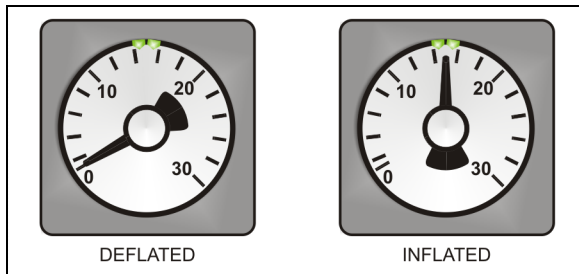

FIGURE 14: INFLATABLE SEAL PRESSURE GAGE
- Finally, the inflatable seal can be re-inflated by turning the shut-off valve handle counterclockwise. Check the pressure gage on the inflatable seal regulator to see if the pressure increases to 15 psi  $\pm$  5 psi (Figure 14). Needle should be pointing between the two small green marks on the dial.
- Finally, the inflatable seal can be re-inflated by turning the shut-off valve handle counterclockwise. Check the pressure gage on the inflatable seal regulator to see if the pressure is increasing to 15 psi  $\pm$  5 psi (Figure 14).